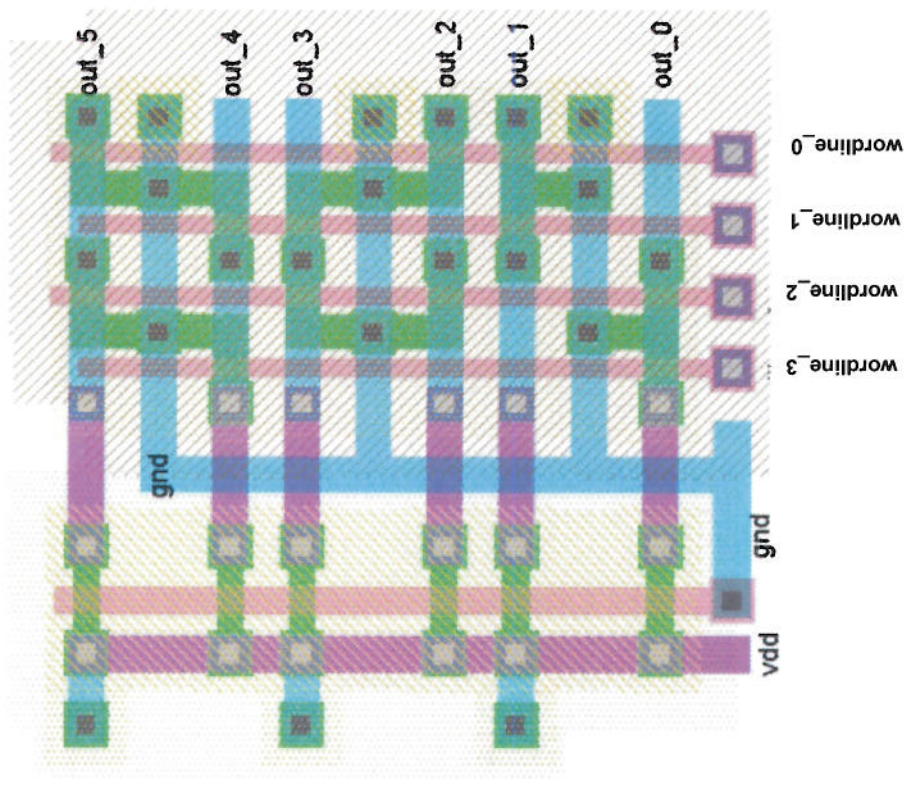

Figure 2.1 Layout of a 4 x 6 ROM for Question 2
2. *Figure 2.1* (see the colour supplementary sheet) shows the layout of a 4 word x 6 bit ROM array without the address decoder and output inverting buffer circuits.